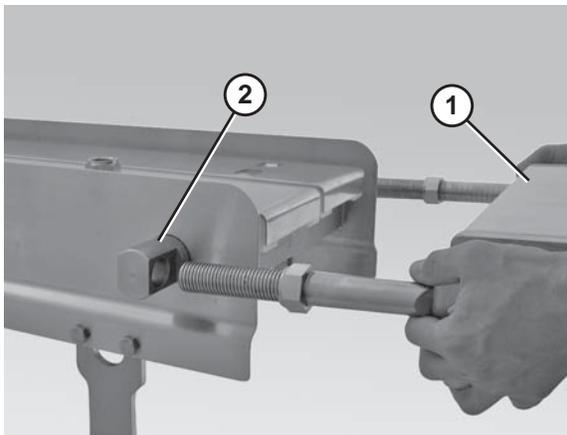

Figure 69
2. Slide the nose bar tail assembly (Figure 69, item 1) out of the take up blocks (Figure 69, item 2).